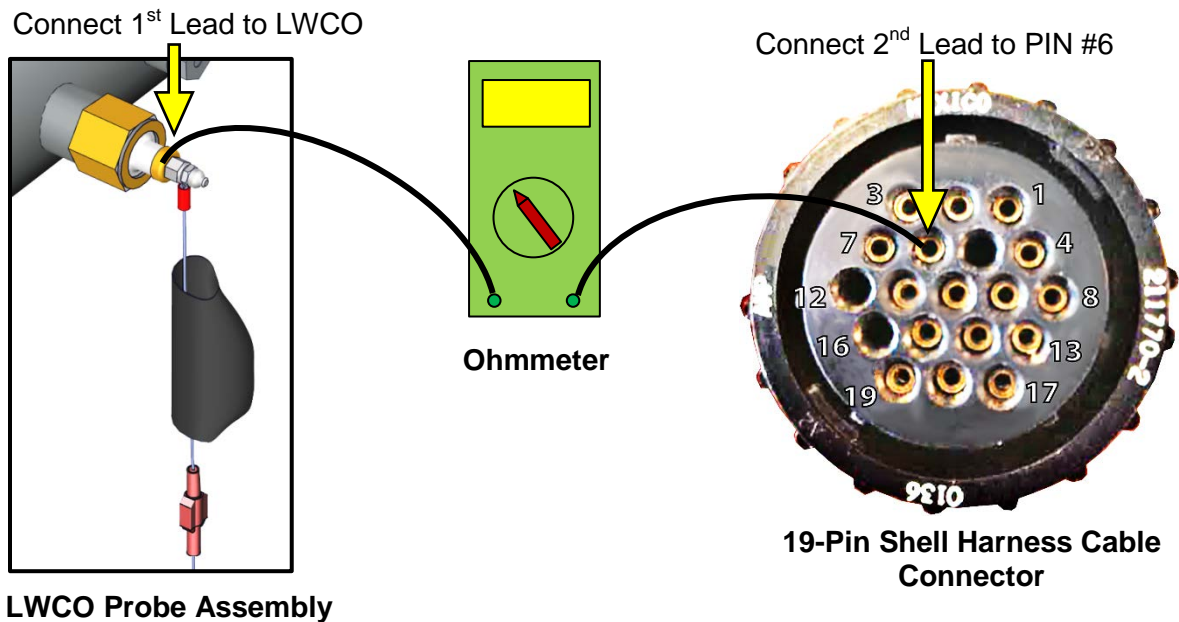

Figure 6-13: Connecting Ohmmeter between LWCO Probe & Shell Harness Cable
- Using an ohmmeter, connect one ohmmeter probe to the LWCO capacitor terminal on the unit shell as shown on left in Figure 6-13.
- Connect the second ohmmeter probe to Pin #6 of Shell Harness Connector (removed from the C-More controller) as shown on right in Figure 6-13.